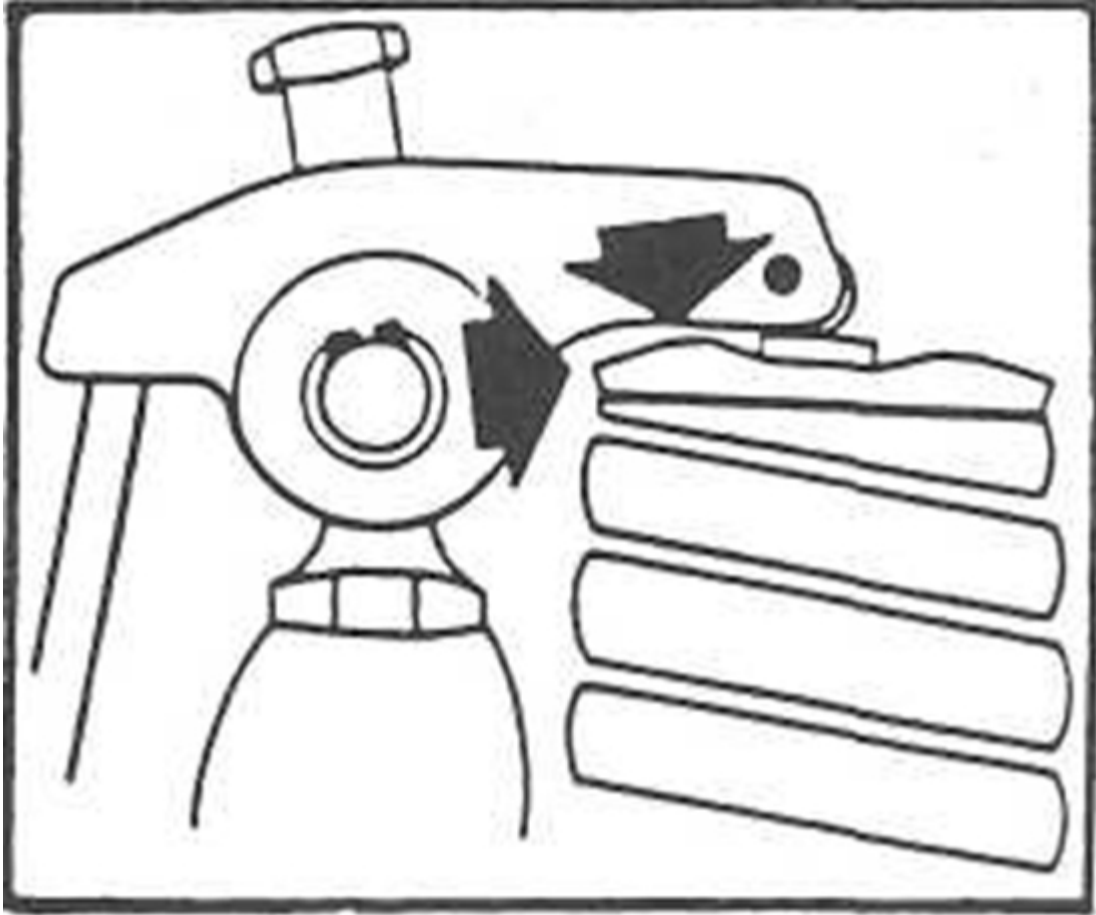

FIGURE 2
4. We offer certain rocker arms that are machined to offer additional clearance when used with large diameter valve springs. **DO NOT ATTEMPT TO GET PROPER CLEARANCE BY GRINDING OR MODIFYING THE ROCKER ARM!** We recommend a minimum of .040" clearance in the area marked in Figure 2. Additional clearance can be gained by using a longer than stock push-rod. Remember to recheck your rocker arm geometry.